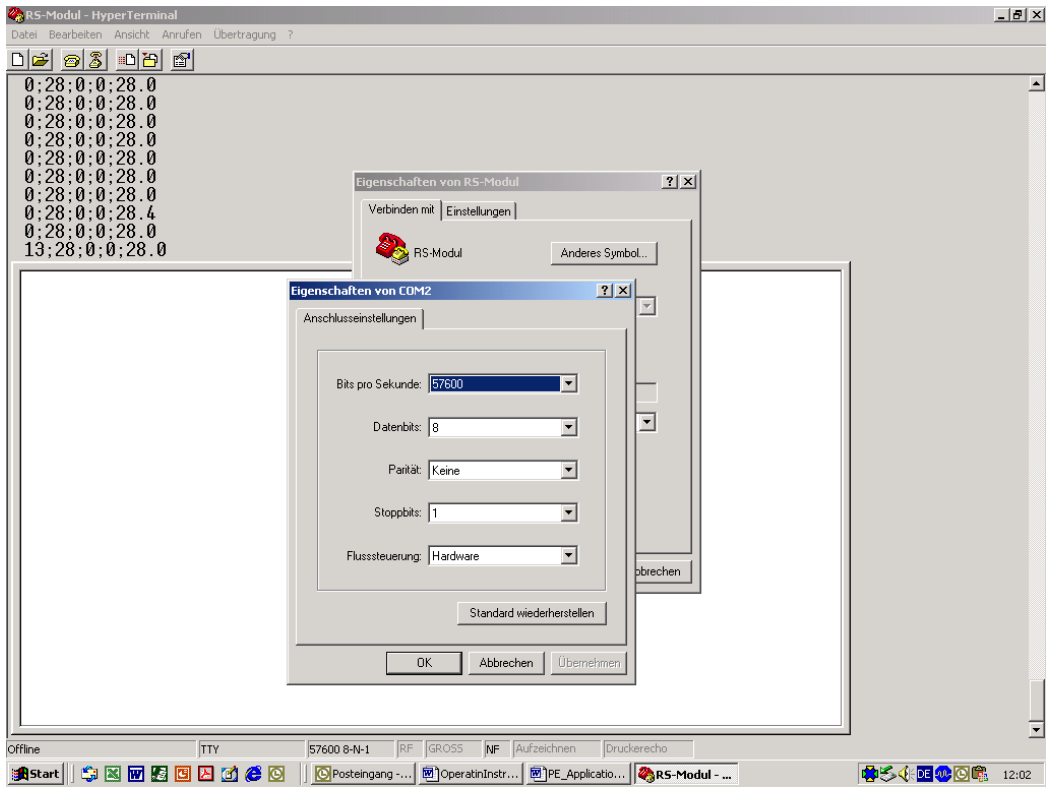

Fig.3: Set-Up Menu for Serial Port configuration
- Ensure Linefeed (LF) is added to End of Line (EOL) of each line received (-> Set up of Terminal Program, fig. 3)
- h) Number of Counting intervals = infinite (0).